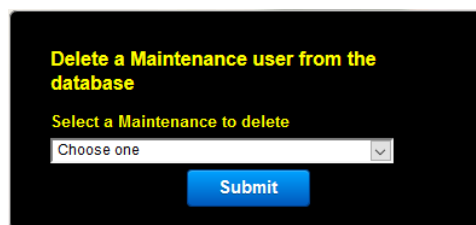

Fig. 30
1. This form allows you to delete a maintenance user. (See fig. 30)